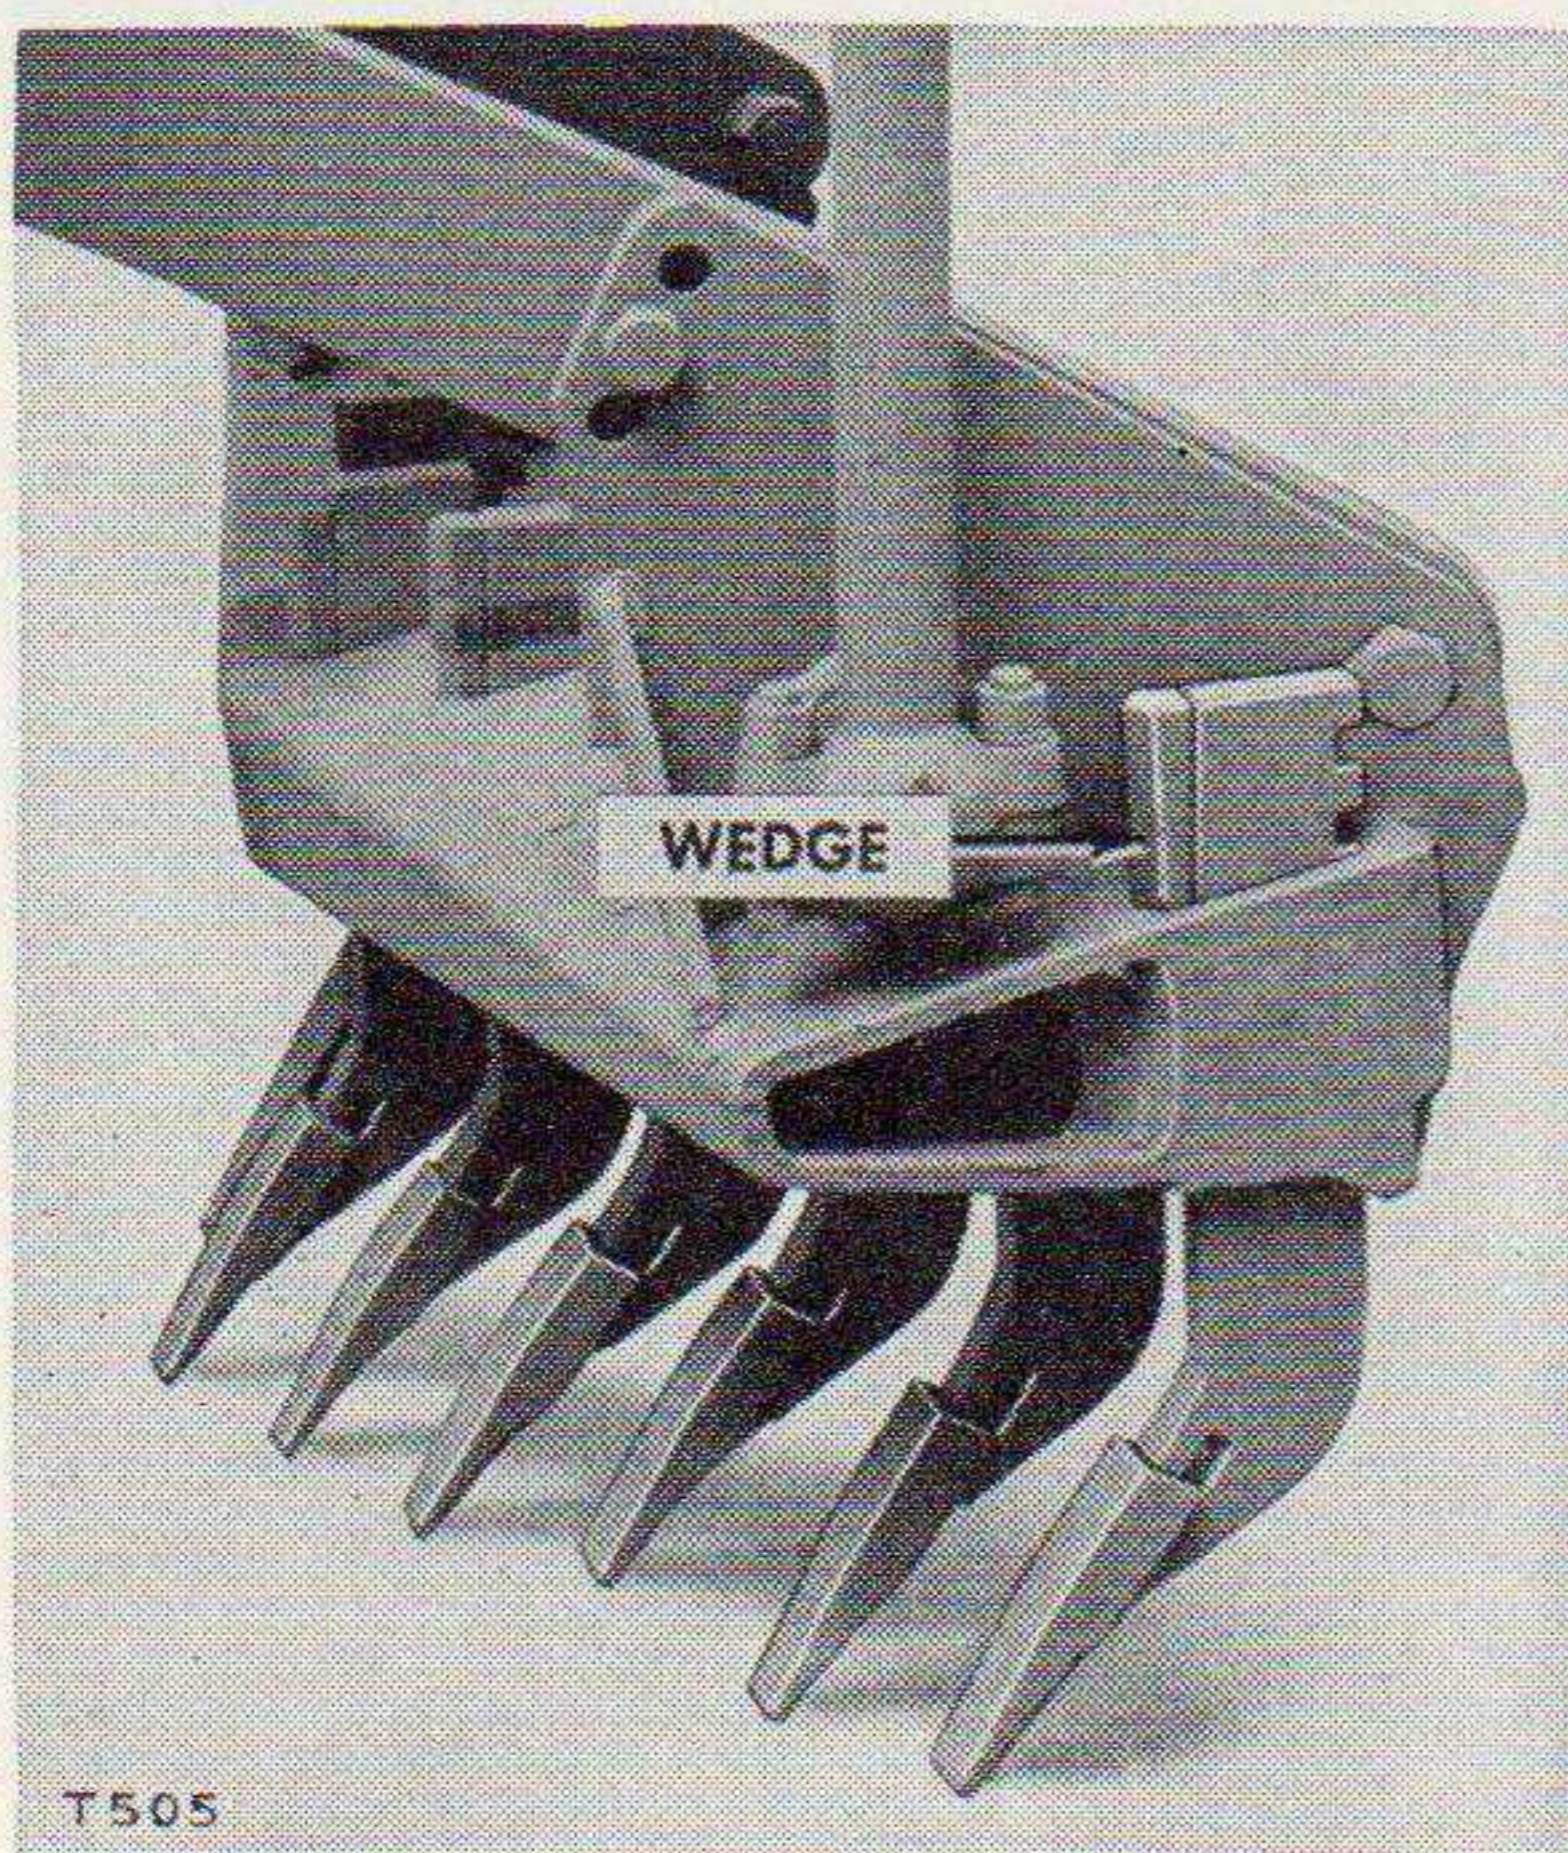

Figure 47. Tooth length adjustment.
(1) *Tooth length adjustment.* (See fig. 47.)